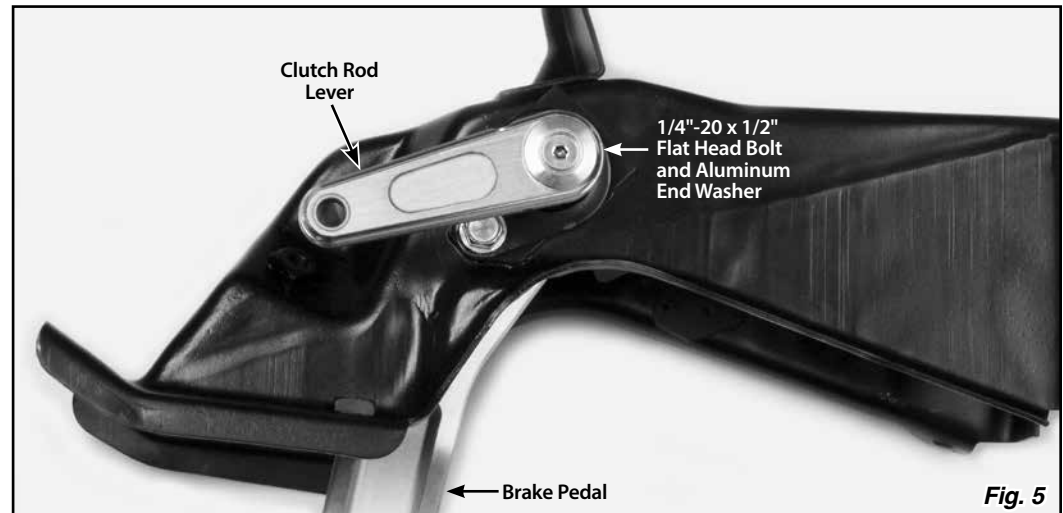

Fig. 5
Step 5: Connect the clutch rod lever to the original clutch pushrod (not included), and install it onto the right hand end of the splined shaft. Install the 1/4"-20 x 1/2" flat head bolt and aluminum end washer onto the right hand end of the splined shaft. **Fig. 5**